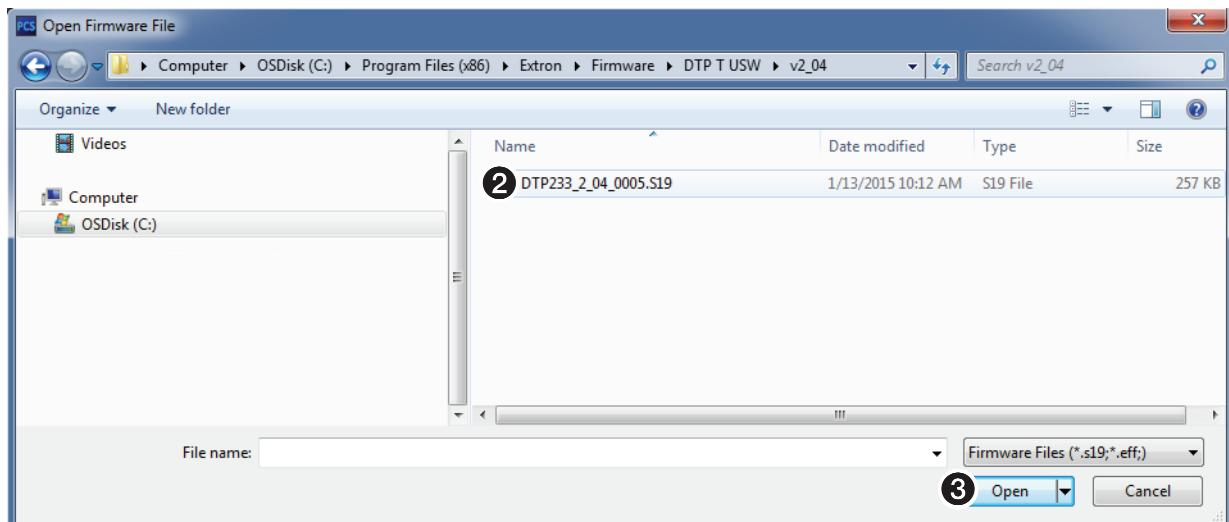

Figure 23. Open Firmware File
- The Open Firmware File dialog box opens. Navigate to the saved firmware upgrade file. Select the file (see figure 23, ②) and click **Open** (③).